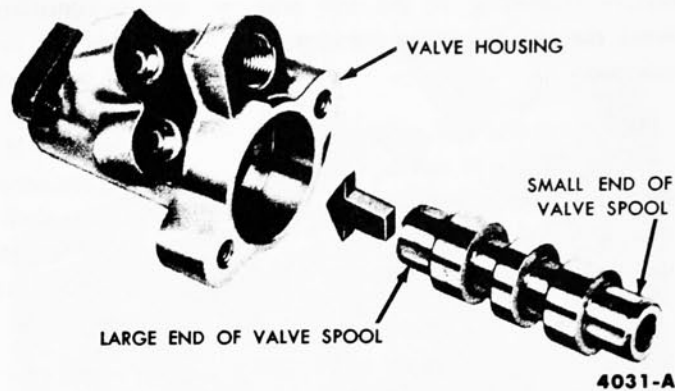

FIG. 15—Insertion of Valve Spool in Housing
6. Insert the valve spool in the valve housing so that the large end of the spool will be at the centering spring end of the housing and the small end of the spool will face the sleeve end of the housing (Fig. 15). **Rotate the spool while inserting it in the housing.**